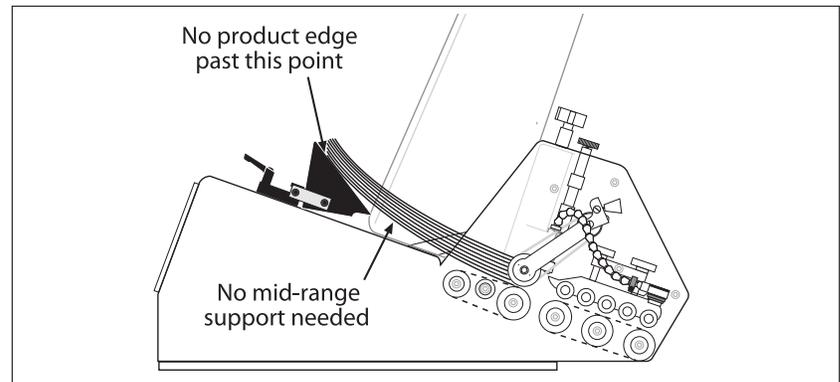

Figure 6-10. **Extended Narrow Wedge Setup**
**Ideal setup:** Adjust so wedge preshingles the bottom of stack against the curvature of gate assembly. Make sure edges of product do not extend back more than the mid-point of wedge. See Figure 6-10.